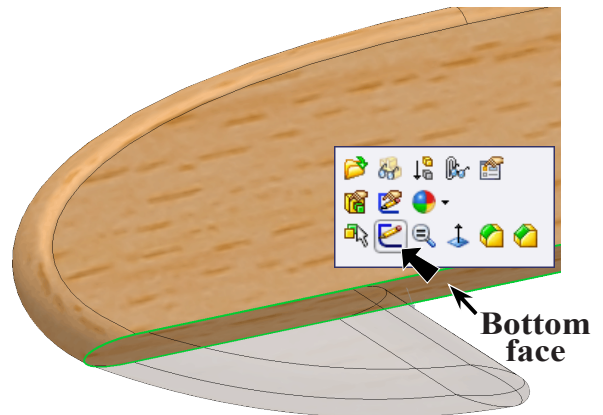

Fig. 13
Step 3. Click the **bottom face** of the Fuselage and click **Sketch**  on the Content menu, **Fig. 13**.